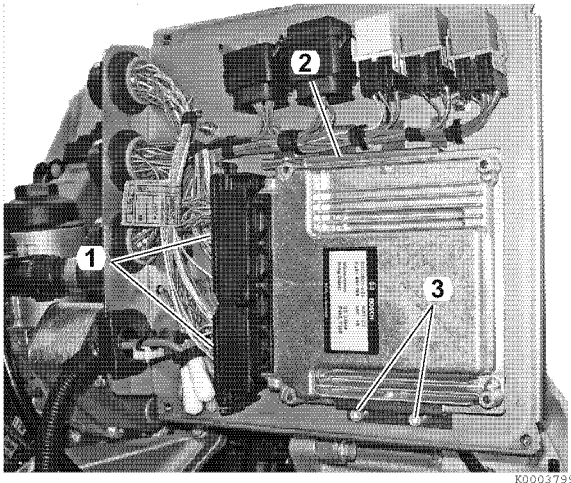

Figure 12-23
3. Disconnect two electrical connectors (1, **Figure 12-23**) from ECU.
4. Remove screws securing the upper ECU retainer (2, **Figure 12-23**).
5. Loosen the lower attaching screws (3, **Figure 12-23**) and remove the ECU.